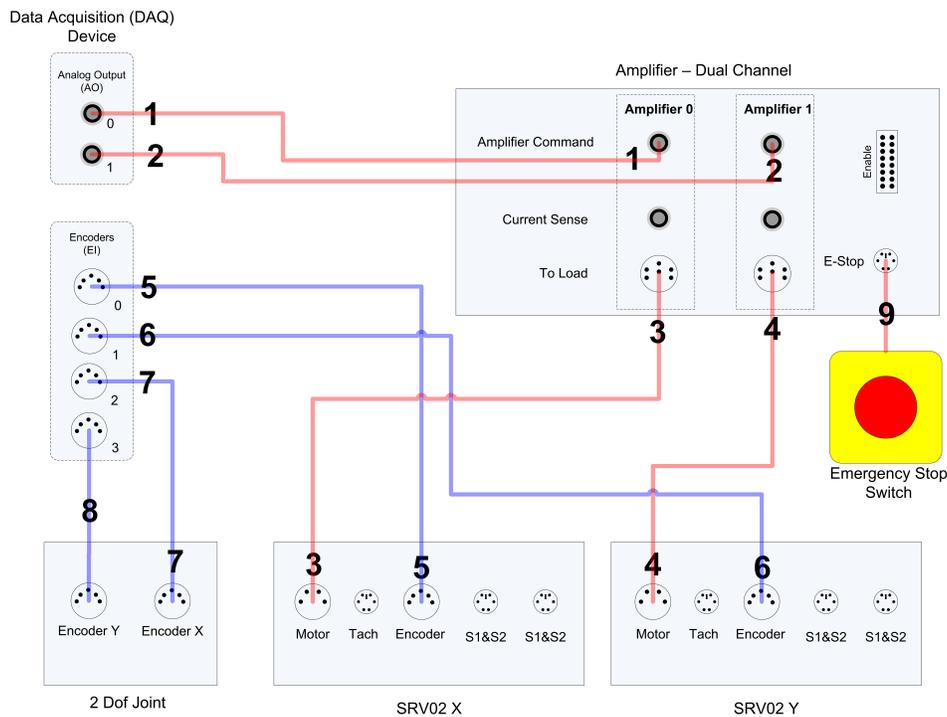
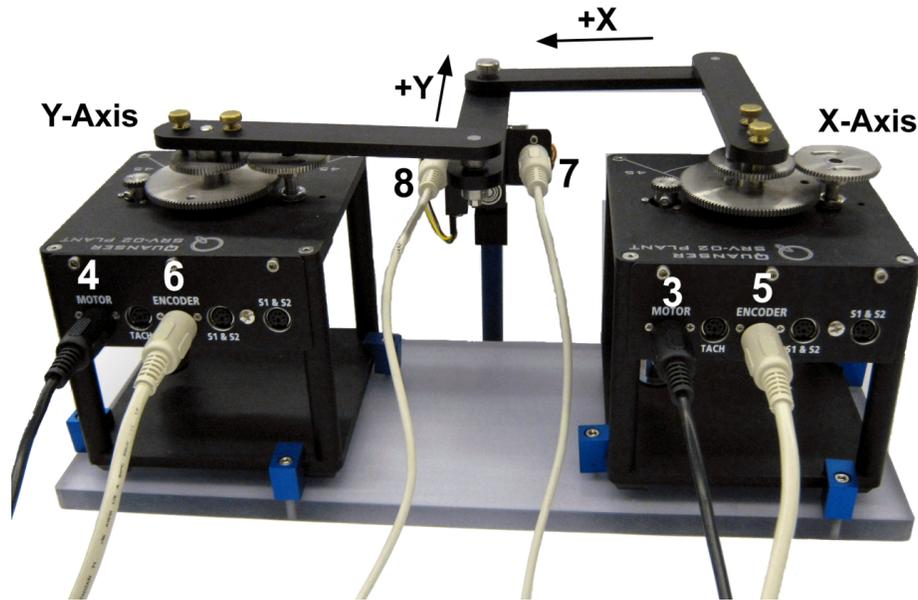

Figure 5.1: 2 DOF Gantry Connections
Figure 5.2: Connections on the 2 DOF Gantry
This section describes the typical connections used for to connect the SRV02 and 2 DOF Gantry system to a data acquisition (DAQ) device and a power amplifier. The connections are given in Table 5.2 and illustrated in Figure 5.1 and Figure 5.2. The detailed wiring procedure is given below.
3. Connect one end of the 2xRCA to 2xRCA cable from the Analog Output Channel #0 on the data acquisition (DAQ) device to the Amplifier Command 0 connector on the amplifier, that will be connected to SRV02 X. See cable #1 shown in Figure 5.1. This carries the attenuated SRV02 X motor voltage control signal, $V_{m,x}/K_{a,x}$, where $K_{a,x}$ is the amplifier X gain.
4. Connect one end of the 2xRCA to 2xRCA cable from the Analog Output Channel #1 on the data acquisition (DAQ) device to the Amplifier Command 1 connector on the amplifier that will be connected to SRV02 Y. See cable #2 shown in Figure 5.1. This carries the attenuated SRV02 Y motor voltage control signal, $V_{m,y}/K_{a,y}$, where $K_{a,y}$ is the amplifier Y gain.
5. Connect the 4-pin-stereo-DIN to 6-pin-stereo-DIN from To Load 0 on the amplifier to the Motor connector on the SRV02. See connection #3 shown in Figure 5.1 and Figure 5.2. The cable transmits the amplified voltage that is applied to the SRV02 X motor and is denoted $V_{m,x}$.
6. Connect the 4-pin-stereo-DIN to 6-pin-stereo-DIN from the To Load 1 on the amplifier to the Motor connector on the SRV02. See connection #4 in Figure 5.1 and Figure 5.2. The cable transmits the amplified voltage that is applied to the SRV02 Y motor and is denoted $V_{m,y}$.
7. Connect the 5-pin-stereo-DIN to 5-pin-stereo-DIN cable from the Encoder connector on the SRV02 X panel to Encoder Input # 0 on the data acquisition (DAQ) device, as depicted by connection #5 in Figure 5.1 and Figure 5.2. This carries the SRV02 X load shaft angle measurement and is denoted by the variable $\theta_{l,x}$.
8. Connect the 5-pin-stereo-DIN to 5-pin-stereo-DIN cable from the Encoder connector on the SRV02 X panel to Encoder Input #1 on the data acquisition (DAQ) device, as depicted by connectio #6 in Figure 5.1 and Figure 5.2. This carries the SRV02 Y load shaft angle measurement and is denoted by the variable $\theta_{l,y}$.
9. Connect the 5-pin-stereo-DIN to 5-pin-stereo-DIN cable from the X-Axis 2 DOF Joint Encoder connector to Encoder Input # 2 on the DAQ, as depicted by connection #7 in Figure 5.1 and Figure 5.2. This carries the X-Axis angle measurement and is denoted by the variable α_x .
10. Connect the 5-pin-stereo-DIN to 5-pin-stereo-DIN cable from the Y-Axis 2 DOF Encoder connector to Encoder Input #3 on the data acquisition (DAQ) device, as depicted by connection #8 in Figure 5.1 and Figure 5.2. This carries the Y-Axis angle measurement and is denoted by the variable α_y .